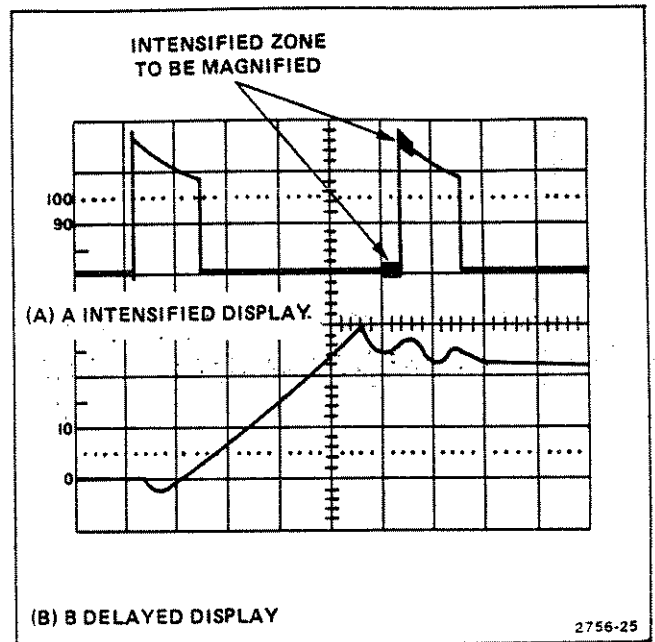

Figure 24. Delayed sweep magnification.
7. Set the B TIME/DIV switch to a setting which intensifies the full portion to be magnified and displays that portion as the B Sweep (see Figure 24). The B INTENSITY control may require adjustment to display the B Sweep (magnified portion).